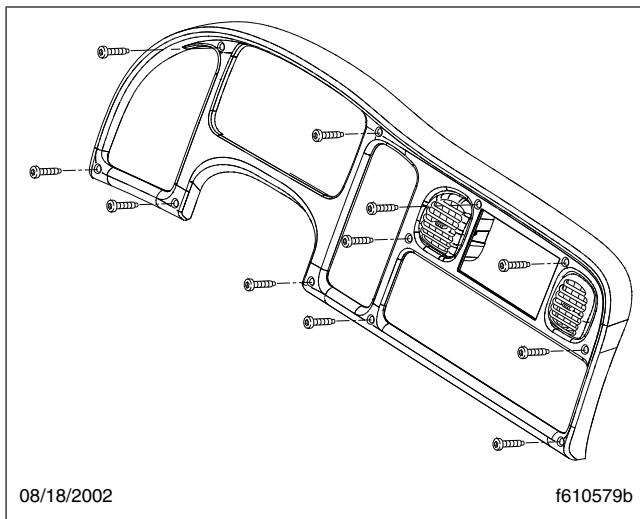

Fig. 3, Dash Trim Piece
- Remove the dash trim piece by removing the eleven screws that secure it. All fasteners for this procedure are 10–16 Torx® capscrews. See Fig. 3.